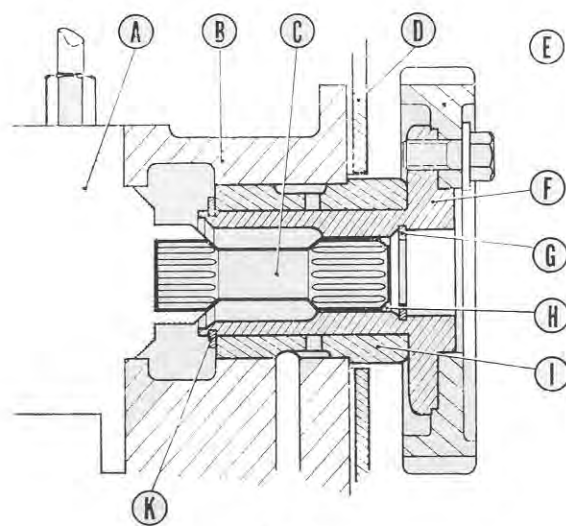

Fig. 6
### TITLE (Fig. 6)
- 3) Insert the pump drive shaft in the drive hub splines and fit the attachments nuts. The assembly should conform to Fig. 6.